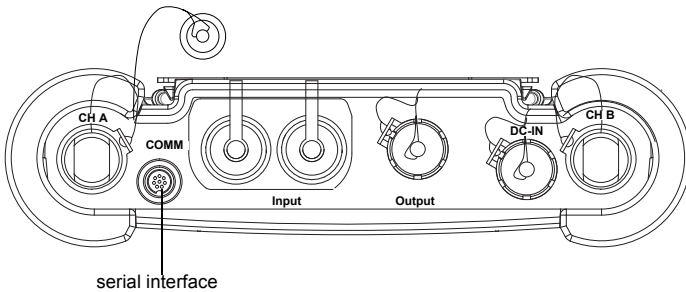
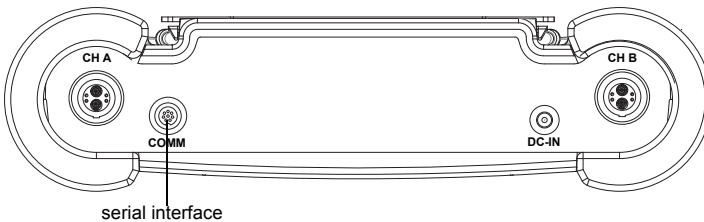

Fig. 7.20: Connections of the transmitter FLUXUS F608\*\*-A2
Fig. 7.21: Connections of the transmitter FLUXUS F608\*\*-F2
- Connect the RS232 cable to the transmitter (see Fig. 7.20 or Fig. 7.21) and to the serial interface of the PC. Use the RS232 adapter for the connection of the RS232 cable to the transmitter. If the RS232 cable cannot be connected to the PC, use the RS232/USB adapter.